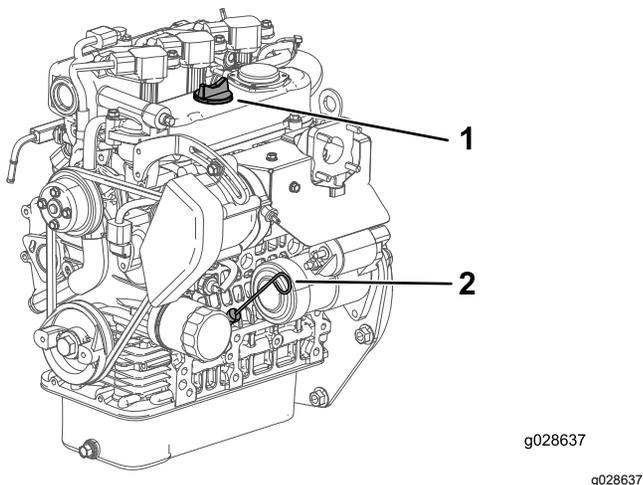

Figure 15
2. Remove the dipstick and wipe it with a clean rag (Figure 15).
3. Insert the dipstick into the tube and make sure that it is seated fully (Figure 15).
4. Remove dipstick and check the level of the oil (Figure 15).
5. If the oil level is low, remove the filler cap (Figure 15), and add enough oil to raise the level to the Full mark on the dipstick.
6. Install the dipstick firmly in place (Figure 15).